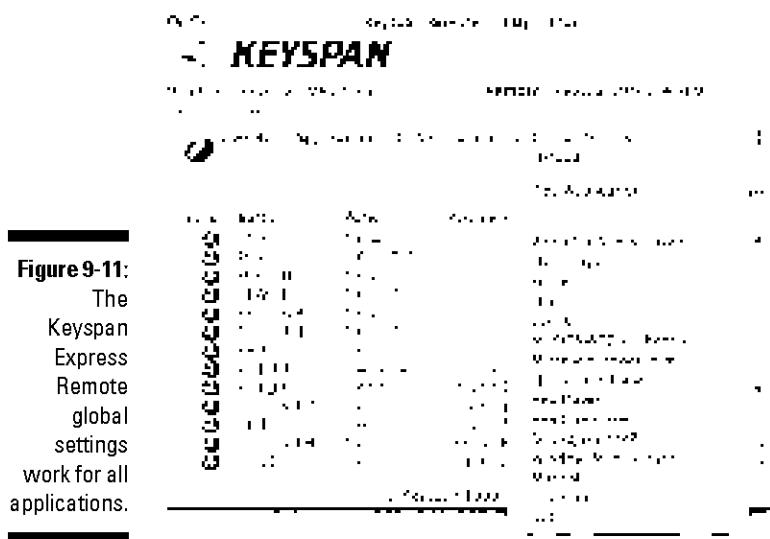

Figure 9-11:
3. **Click the Configure button to open the mapping window, shown in Figure 9-11.**
Use the Application menu to set button actions for individual applications or global actions. In Figure 9-11, global actions is selected.
Figure 9-11 shows VLC already listed in the Application menu. The Keyspan Remote doesn't include it as a default setting, so you have to add it.